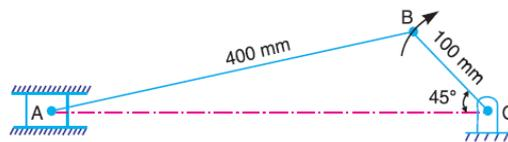

Fig. 6.12
7. Locate all the instantaneous centres of the slider crank mechanism as shown in Fig. 6.12. The lengths of crank OB and connecting rod AB are 100 mm and 400 mm respectively. If the crank rotates clockwise with an angular velocity of 10 rad/s, find: 1. Velocity of the slider A , and 2. Angular velocity of the connecting rod AB .